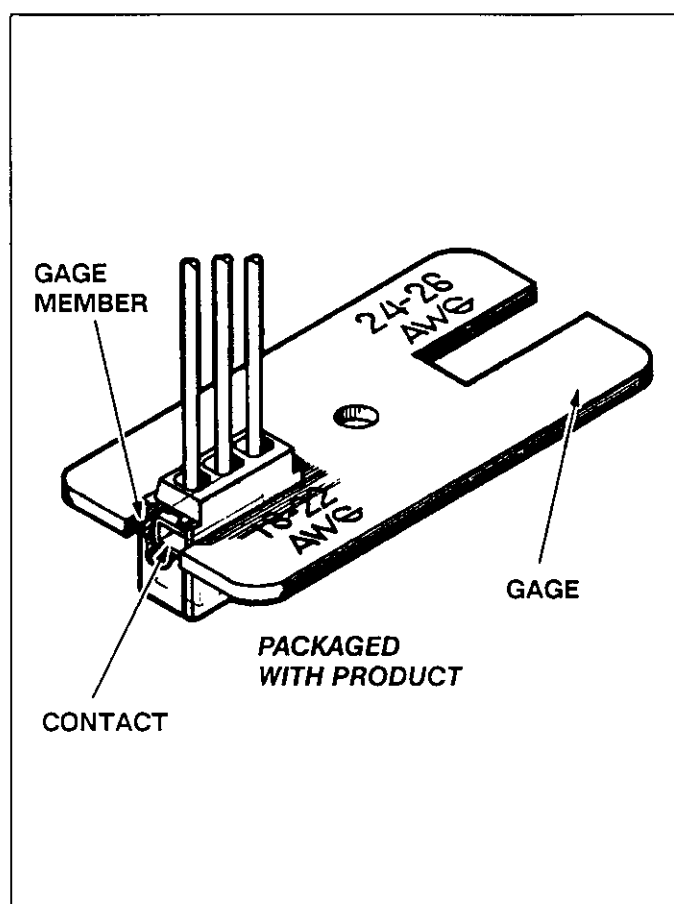

Fig. 3
1. Check each terminated connector by placing the connector in the gage so the contact is aligned with the gage members as shown in Figure 3.